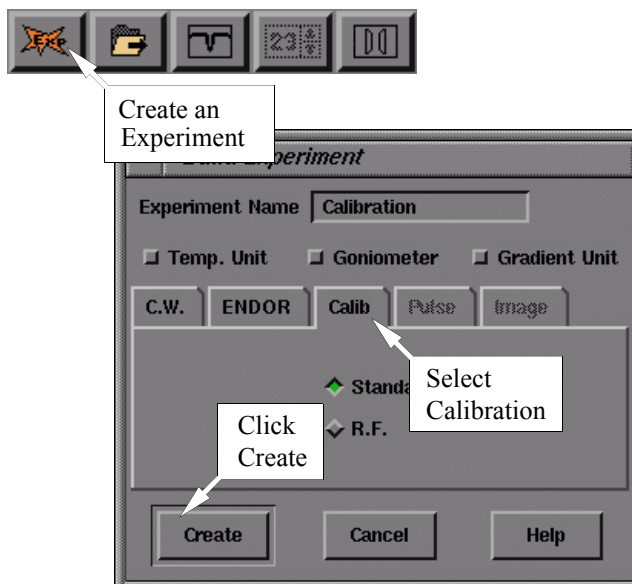

Figure 17-5 Creating a calibration experiment.
2. **Create a calibration experiment.** Click the New Experiment button in the monitoring panel and the dialog box will appear. (See Figure 17-5.) Enter a name for the experiment (calibration for example) in the Experiment Name column. Click the Calib tab. Make sure the Standard push button is activated (green). The R.F. button is for ENDOR calibration. Click the Create button to close the dialog box.